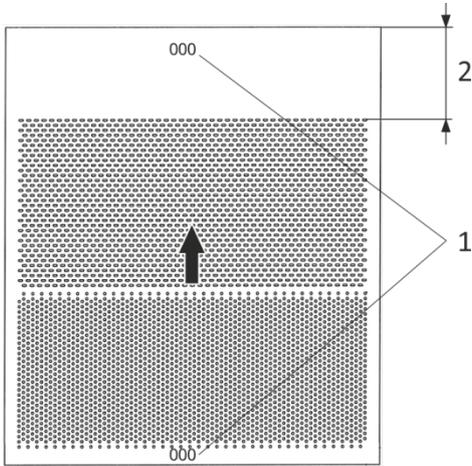

Figure 17: Sand sieve - mounting position
- ⇒ Pay attention to the mounting position; refer to **figure 17**.